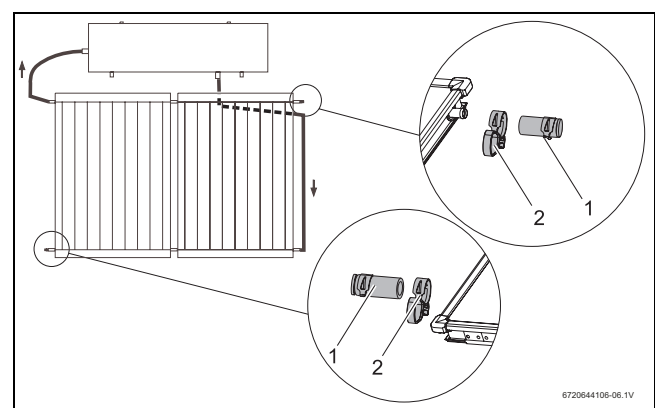

Fig. 37 Hose clip with locking ring and pre-assembled dummy plug
- Push pre-assembled dummy plugs (Fig. 37, [1]) with hose clips [2] onto the two free connections on the collector array.